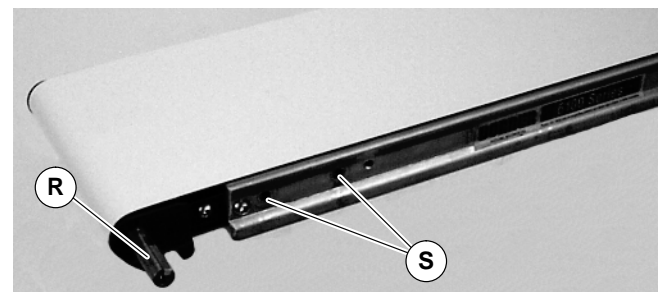

Figure 5
3. Locate drive output shaft (R of Figure 5) and remove two (2) screws (S).